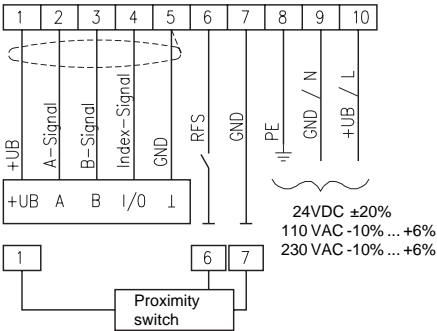

Fig. 2: Connection diagram (type EG)
- PE connection with 2.5 – 4 mm² via PE terminal (fig. 2).